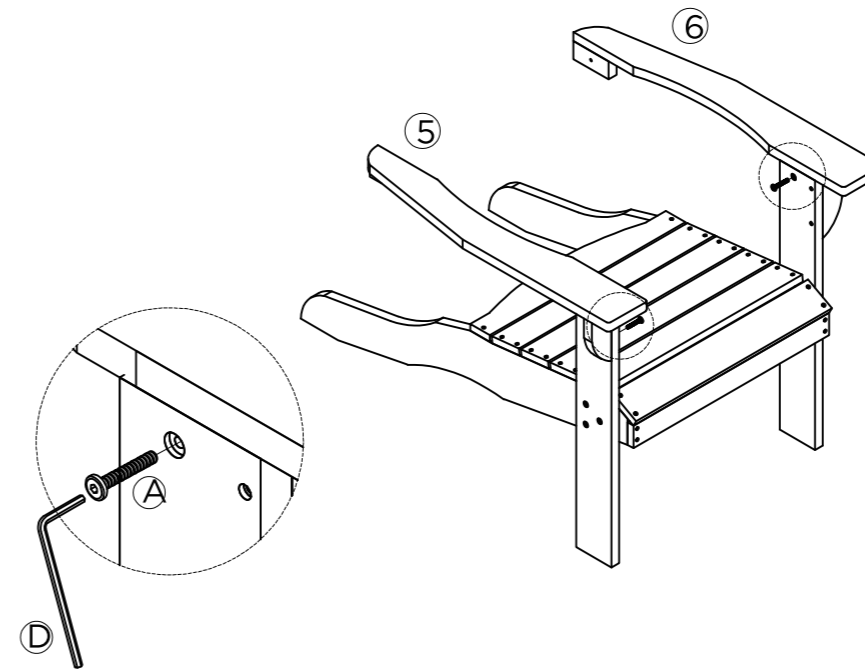

Fig. 2
3. Attach the Right Arm (5) and Left Arm (6) with the Right Leg (3) and Left Leg (4), using hex key (D) to secure bolts (A) into holes. See Fig. 2.